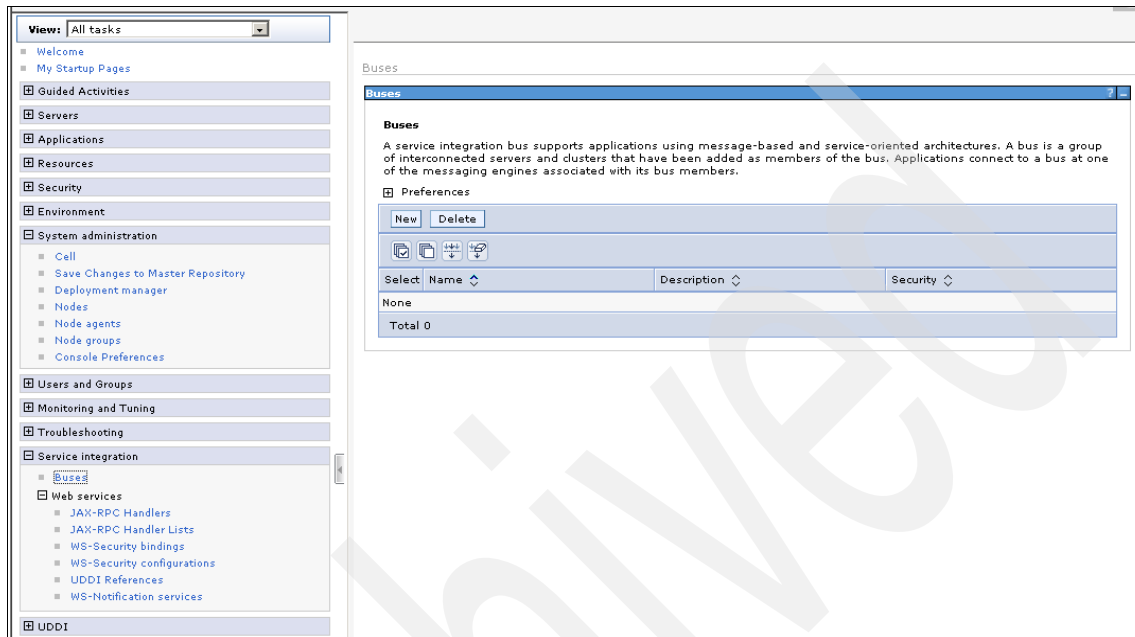

Figure A-20 Service integration
3. Click **Service Integration** → **Buses** to open the Buses dialog (see Figure A-20). A bus is a group of interconnected servers and clusters that have been added as members of the bus.